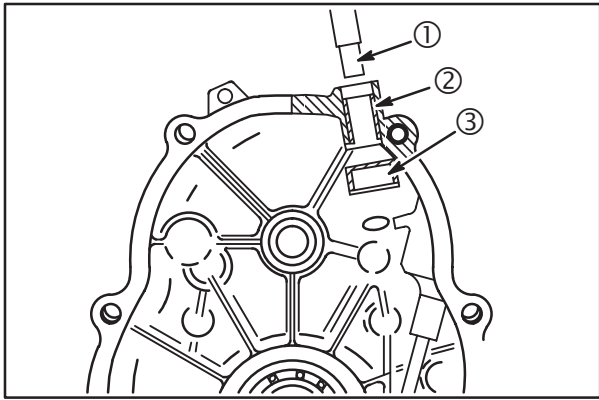

Fig. 9
1. Press out upper bushing (2) using Bushing Driver #19204 (1), Fig. 9.